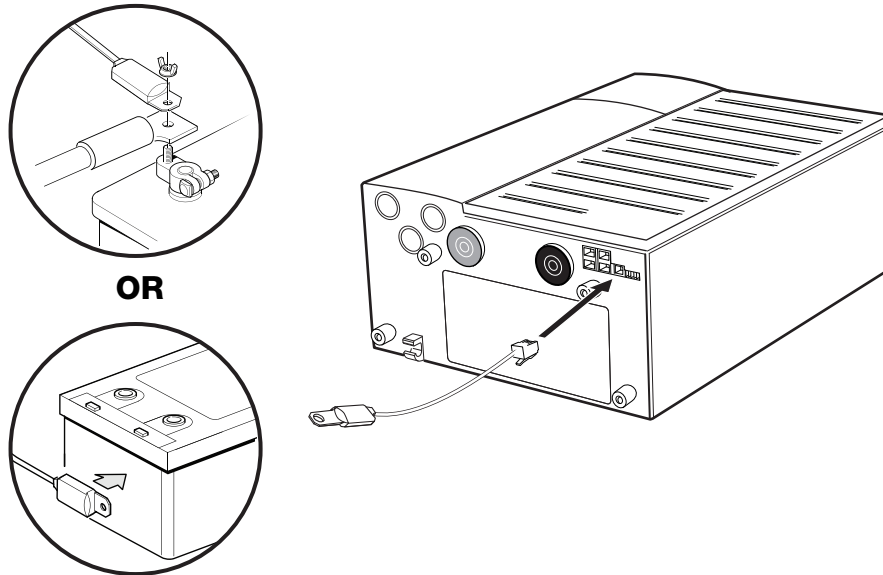

Figure 3-5 Battery Temperature Sensor Installation
2. Route the BTS cable to the battery enclosure, and then connect the BTS using one of the following methods (as shown in Figure 3-5 on page 3-10):